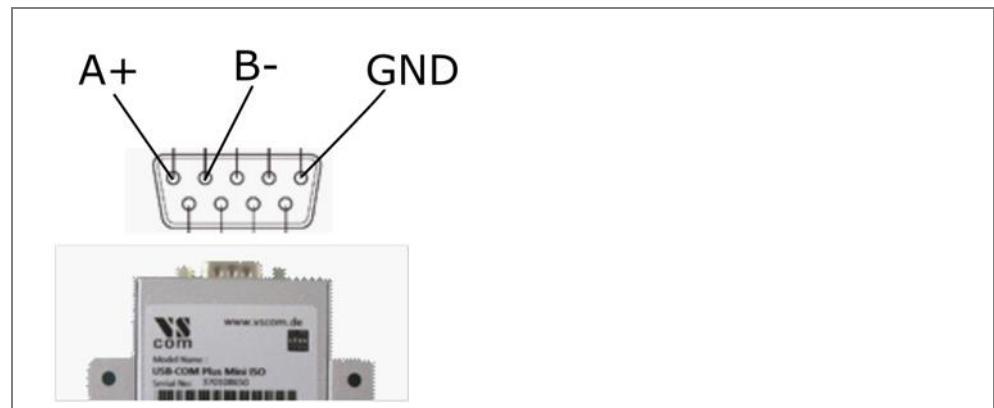

Fig. 3
- ▶ Connect the RS485- converter with the device. The connection will be built between the converter and the PC (Fig. 3).